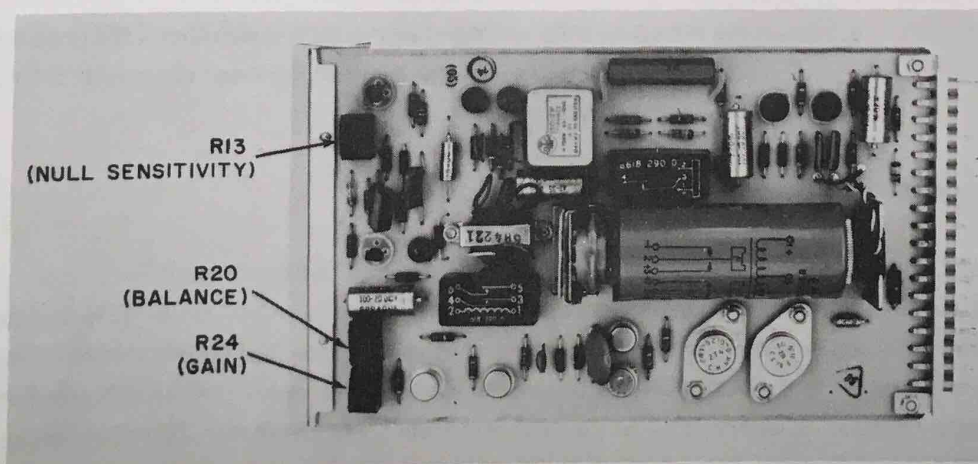

Figure 5.5. Servo Amplifier Card Control Locations
2. Adjust R20, the balance control on the servo amplifier card (see Figure 5.5), until the monitor meter indicates a null.
2. Set the null sensitivity control R13 (Figure 5.5) to mid-range.
6. Connect a meter to the servo output and adjust gain control R24 (Figure 5.5) for +9.0 volts.
3. Rotate the sensitivity control, R13 (Figure 5.5), until the red flood is visible on the DVM readout display.